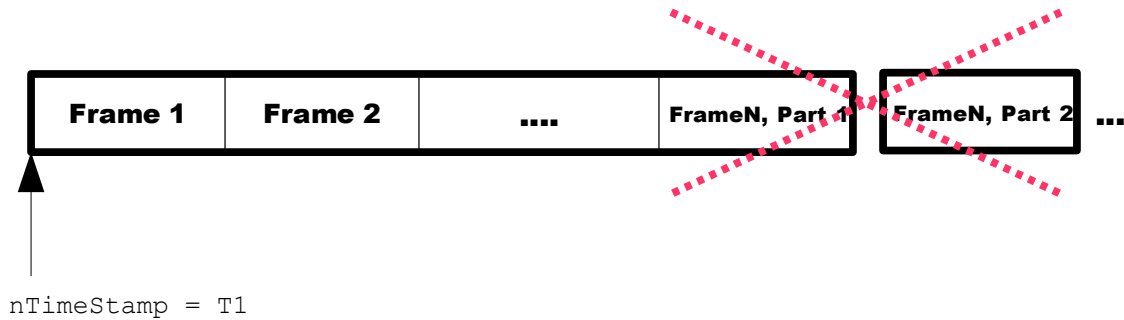

Figure 4: Invalid buffer content - If multiple frames are packed into a single OMX buffer, partial frames WILL NOT be stored in that buffer
a) If PV framework uses packing of multiple frames per one OMX input buffer for a specific codec format, then PV framework will also ensure that only FULL frames will appear in such a buffer, and that partial frames WILL NOT appear in any OMX buffers for that format. This situation is illustrated in Figure 4.